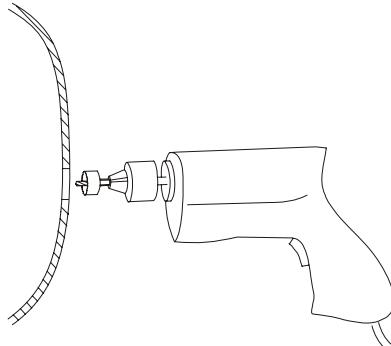

Figure 2
- o When using the sensor sleeves, use a 28mm hole saw (part# AS-28MMHS). Drill at a perpendicular angle to the bumper (see Figure 2).
- o When installing the sensors directly in the bumper, use a 22mm hole saw and drill at a perpendicular angle to the bumper (see Figure 2).